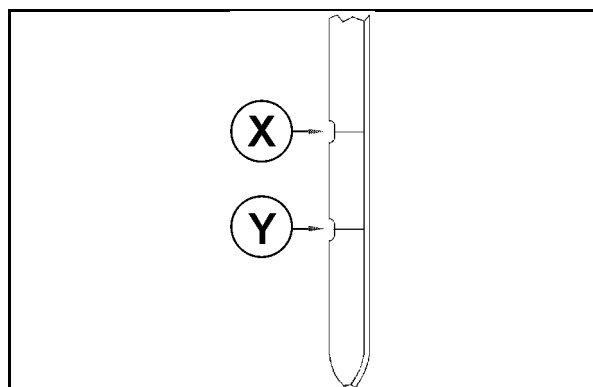

Fig. 110
5. Pull the oil-level dipstick (1) out and wipe it using a clean cloth.
The oil level should always be between the top (X) and bottom marking (Y) of the oil-level dipstick (Fig. 110).